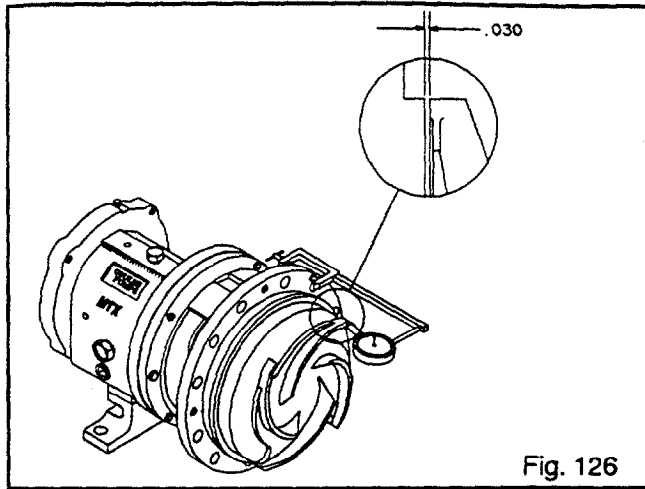

Fig. 126
6. Check impeller runout. Check vane tip to vane tip. Total indicator reading greater than 0.005 in. (.13 mm) indicates a problem (Fig. 126).